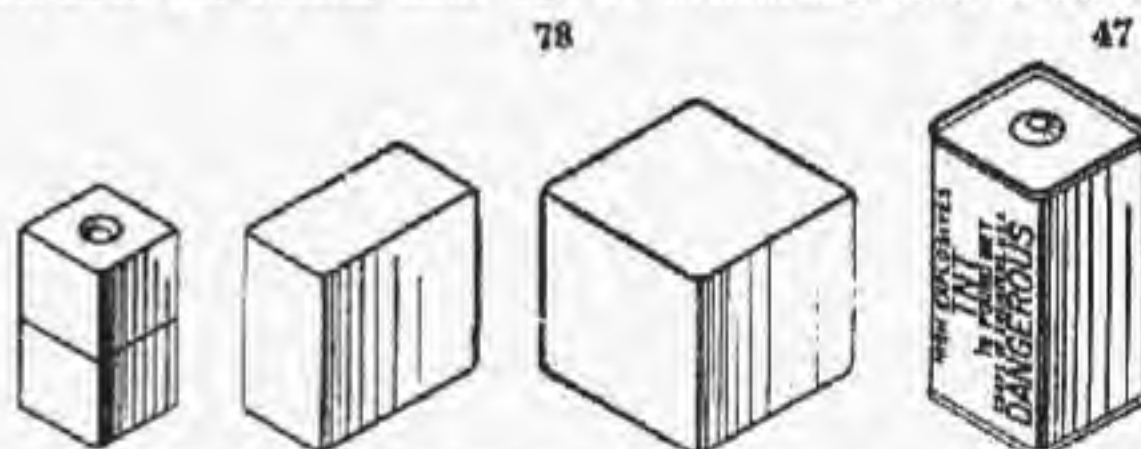

FIGURE 81.—Packages of nitrostarch, and TNT: $\frac{1}{4}$ -, $\frac{1}{2}$ -, and 1-pound packages of nitrostarch, and $\frac{1}{2}$ -pound block of TNT.
■ 47. EXPLOSIVES.—a. TNT.—(1) TNT (trinitrotoluene) is the standard explosive for Army use. It is issued in $\frac{1}{2}$ -pound blocks encased in a cardboard container closed at both ends with lacquered tin (fig. 81). One end of each block has a cylindrical hole, approximately $\frac{1}{16}$ inch in diameter and $2\frac{1}{2}$ inches long, for receiving the cap.